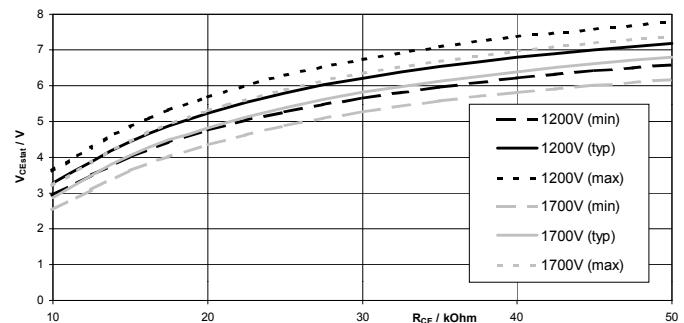

Fig. 4 V_{CEstat} in dependence of R_{CE} ($T_{amb} = 25^\circ\text{C}$)
2. Calculate approximate value of R_{CE} according to equation (1) or (1.1) from V_{CEstat} or determine R_{CE} by using fig.4.
3. Determine t_{min} and calculate C_{CE} according to equations (2) and (3).